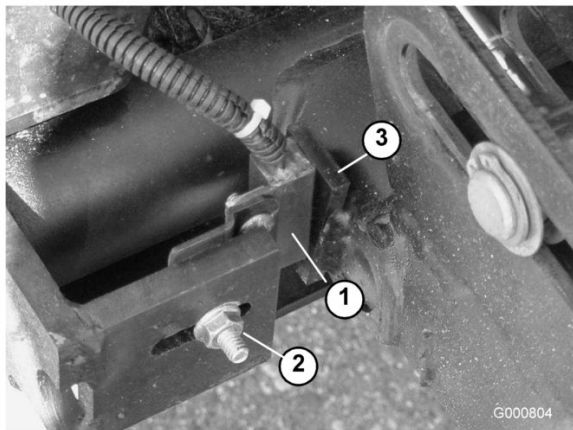

Figure 87
- Loosen the carriage bolt nut securing the lift arm switch bracket to the #4, 6 or 7 lift arms (Figure 87). #4 shown in figure.